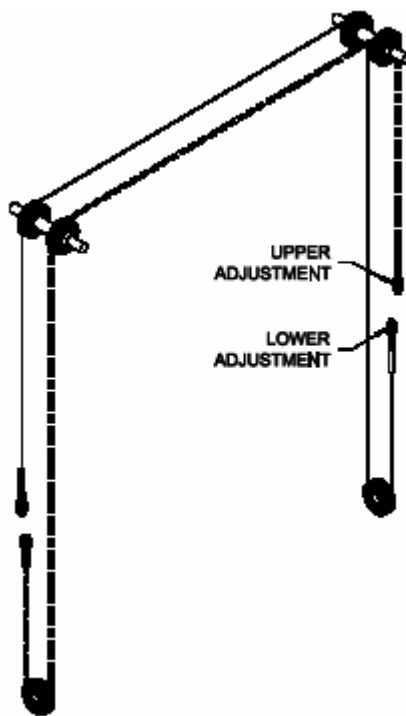

Fig 3- Cable Routing
16. Route synchronizing cables using Fig 3 and attach ends to carriages' joining using Fig's 4.